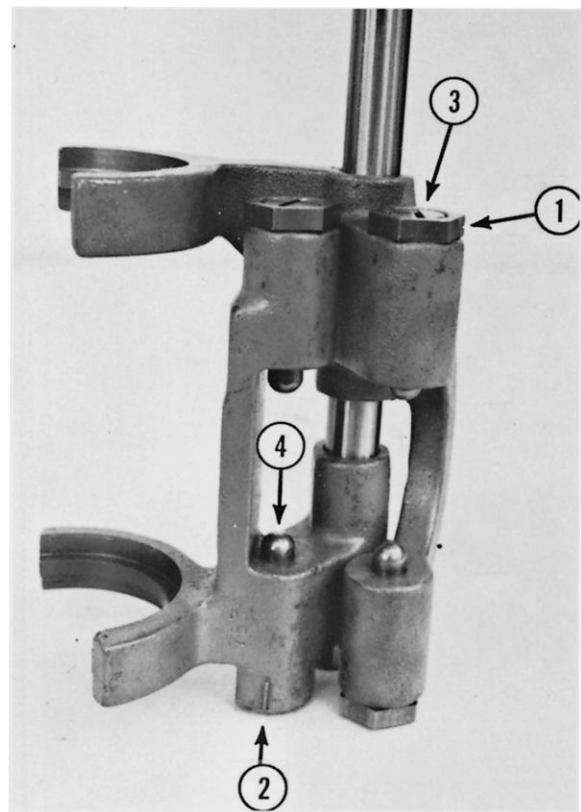

Fig. 11-19
A. Loosen the locknut (1, Fig. 11-19). [Remove the cotter pin (2, Fig. 11-19) on bottom of lower yoke.]
B. Adjust the screw (3, Fig. 11-19) so the total movement of the plunger (4, Fig. 11-19) is between 1/4" to 7/32" and tighten the locknut or replace the cotter pin.